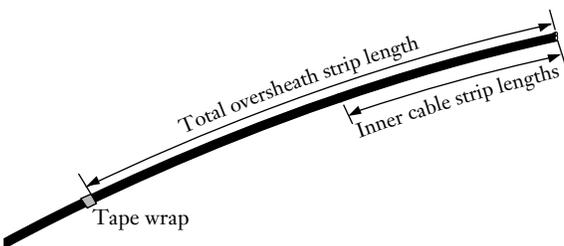

Figure 2
5.2 Determine the total length of oversheath to be removed and mark it on the cable with a wrap of tape (Figure 2).